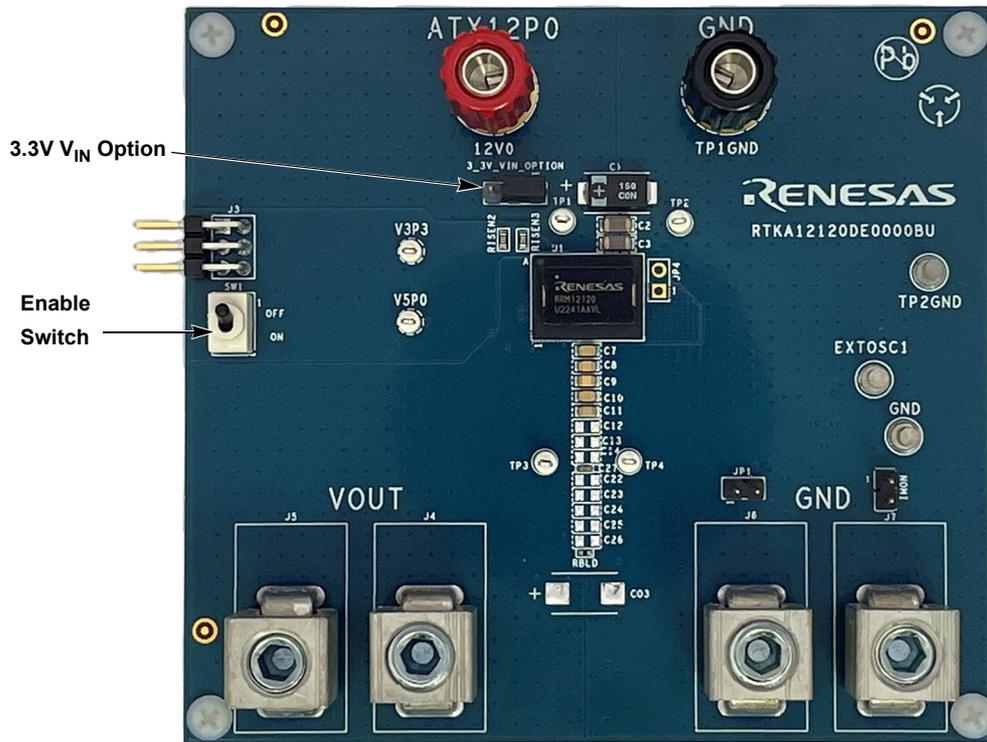
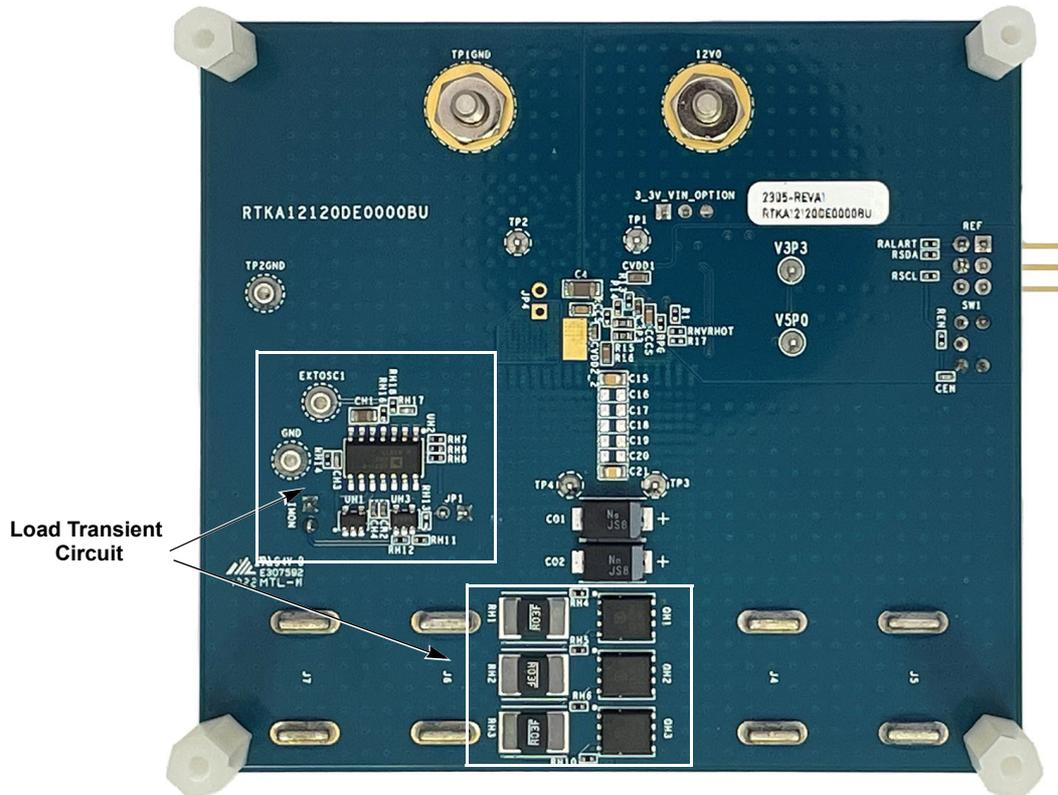

Figure 6. Top of Board
Figure 7. Bottom of Board
The RTKA12120DE0000BU evaluation board provides the peripheral circuitry to evaluate the feature set of the RRM12120. The evaluation board includes several connectors, test points, a mechanical switch and jumper that simplify the evaluation of the module. When pin Enable is selected in the PowerNavigator, the converter is enabled and disabled by switching the EN pin as shown in Figure 6. Connecting a jumper between pin 1 and 2 of the 3_3V_VIN_OPTION, allows using VIN to power the internal analog 5V and 3.3V supplies (as shown in Figure 6). The RTKA12120DE0000BU evaluation board has a built-in load transient test circuit which can be used to test the load transient response of the RRM12120 (see Figure 7). Figure 6 and Figure 7 show the photograph of the top and bottom of the RTKA12120DE0000BU evaluation board.
1. Disable the module by turning the SW1 switch to the OFF position, shown in Figure 6.
To configure for using external 5V/3.3V supplies, power down the board and remove the jumper on 3_3V_VIN_OPTION. Apply 5V to the V5P0 test point. Apply 3.3V to the V3P3 test point. See locations of the 3_3V_VIN_OPTION, V3P3 and V5P0 test points in Figure 6.